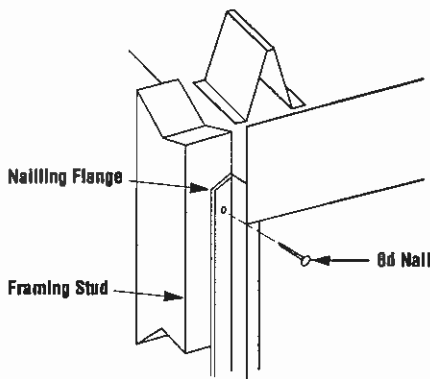

Figure 16
Step 5. Firebox should be secured to side framing members using nailing flanges. Use 8d nails (*Figure 16*).